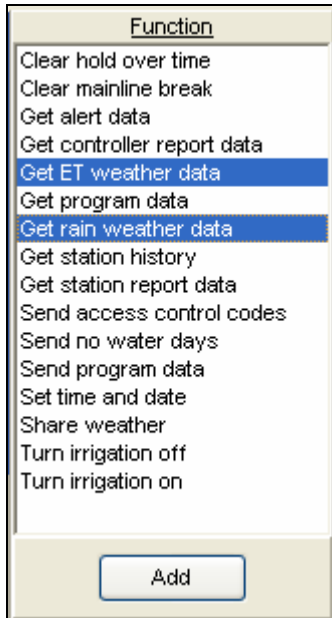

Figure 12.1.6
4. Next you will have to decide which functions that you want to take place under this task. Click on a function to highlight it. If you want to choose multiple functions press the **Ctrl** key and click on each function until done (Figure 12.1.6).